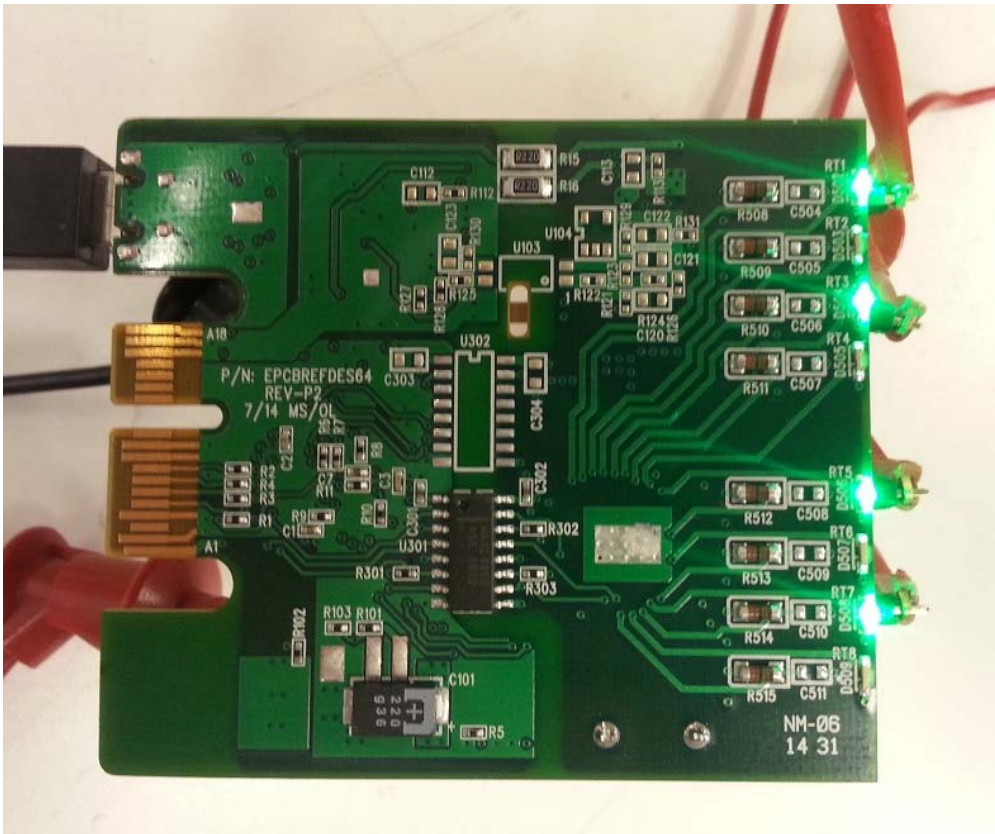
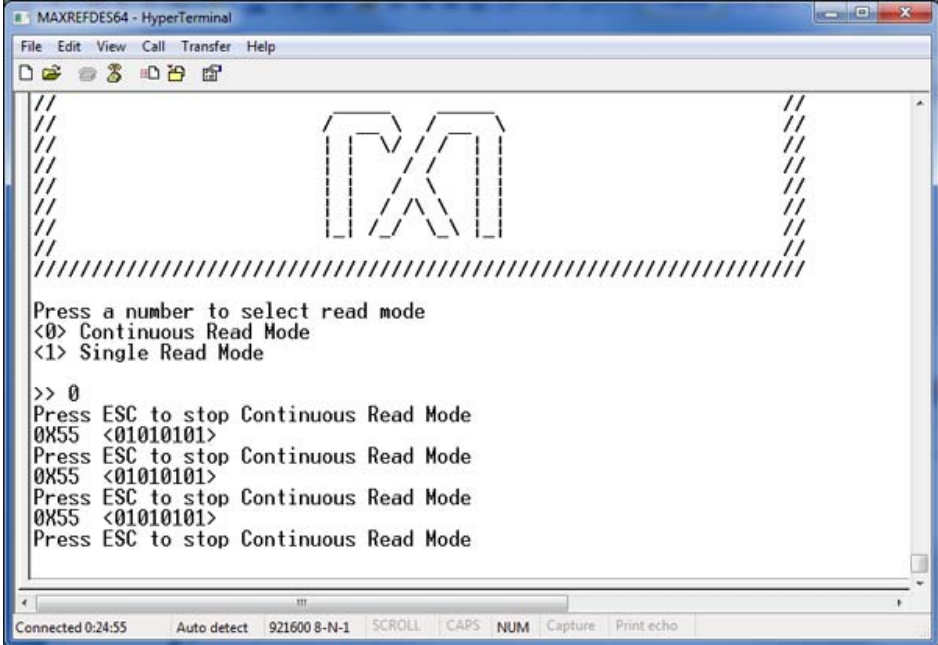

Figure 4. Test setup.
Figure 5. Test outputs.
**Figure 4** and **Figure 5** show the digital inputs of hex value 0x55 and also the result read by the Terminal program.